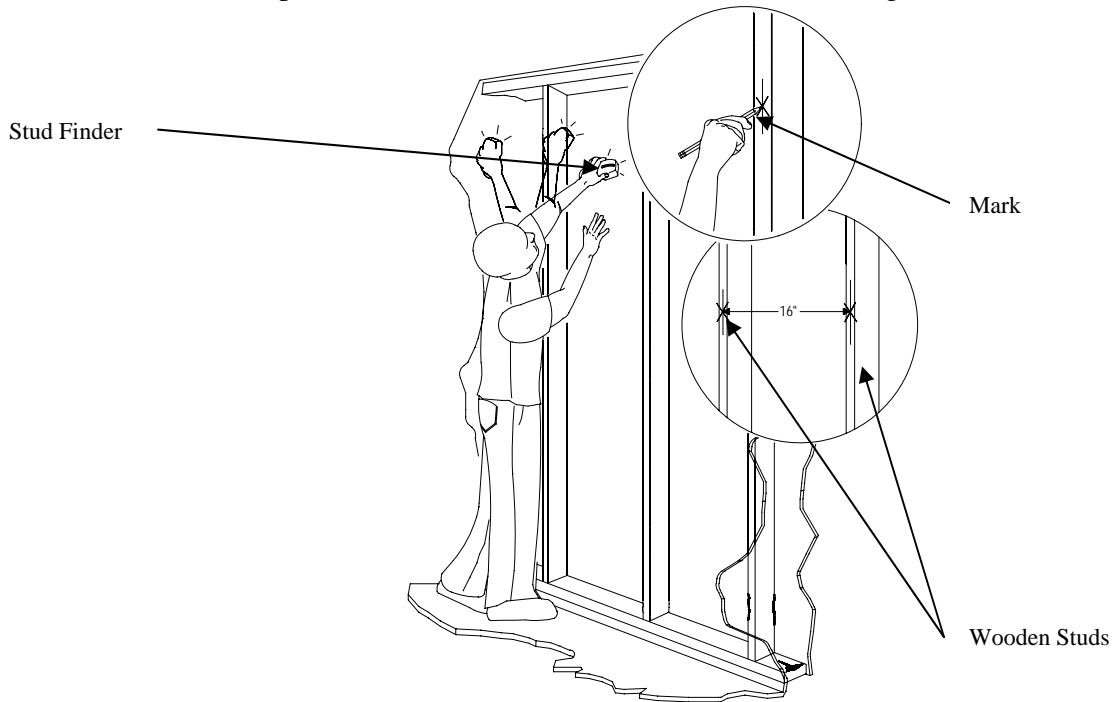

Figure 7. Locating the Wooden Stud
2. Once found, make a pencil mark on the center of the wood studs (Figure 7).